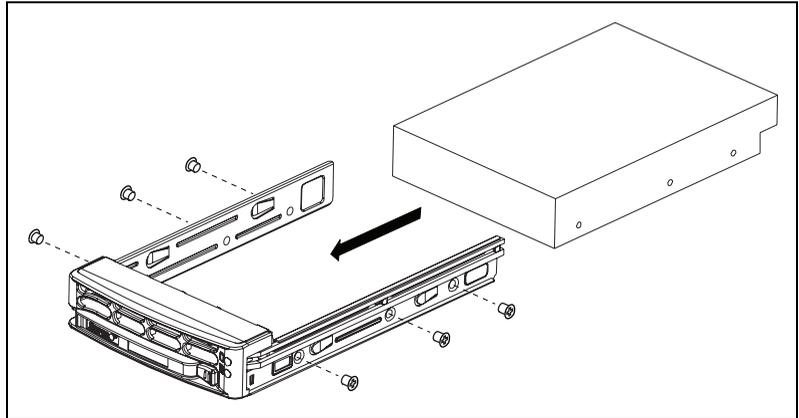

Figure B-27. Sliding Hard Disk Drive into SCA Drive Tray
- Slide a hard disk drive into the SCA drive tray. Secure the drive to the tray with three screws on each side of the tray, as shown in Figure B-27.